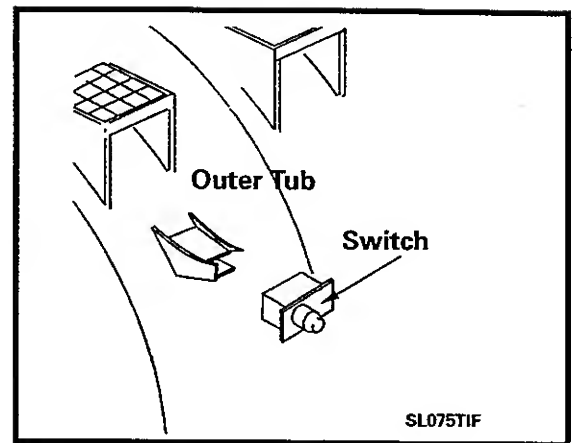

Figure 7-15
3. The switch is located on the upper right hand side of the outer tub assembly, directly behind the right upper front suspension spring (*Figure 7-15*).